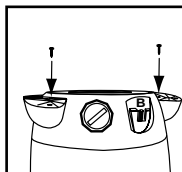

FIGURE 4
4. Secure with screws provided. **FIGURE 4.**